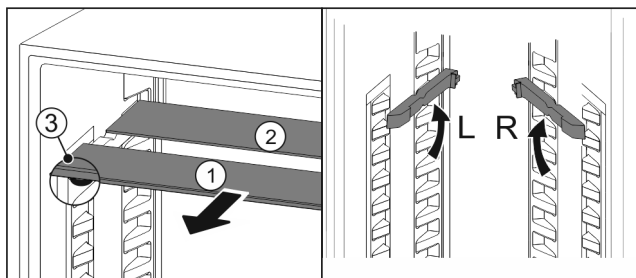

Fig. 98
- Pull the glass panels out Fig. 98 (1) from the front, one at a time.
- ▷ The glass panel Fig. 98 (1) with the trim strip is at the front.
- ▷ The stops Fig. 98 (3) point downward.